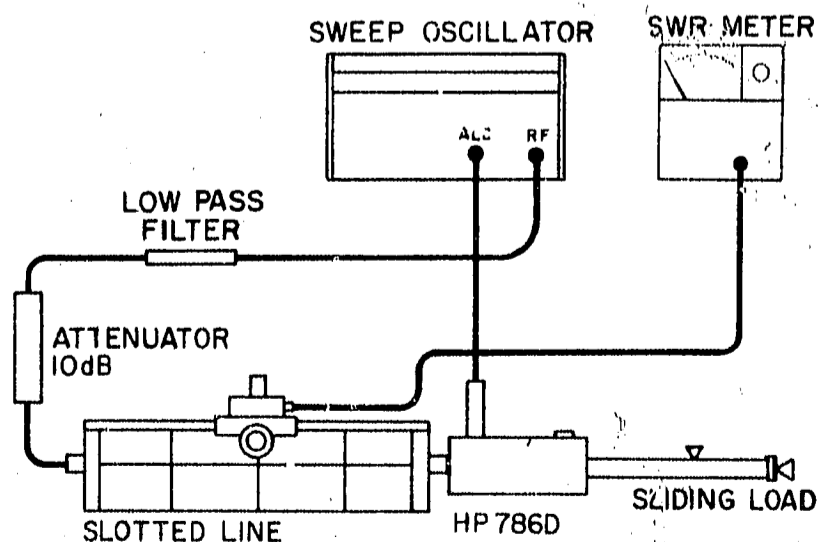

Figure 11. SWR Check
- a. Set up test equipment as shown in Figure 11.